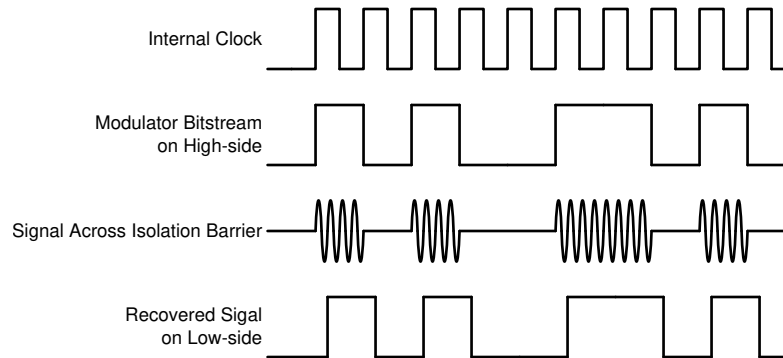

Figure 7-1. OOK-Based Modulation Scheme
The AMC1300B-Q1 uses an on-off keying (OOK) modulation scheme, as shown in Figure 7-1, to transmit the modulator output bitstream across the SiO₂-based isolation barrier. The transmit driver (TX) shown in the Functional Block Diagram transmits an internally-generated, high-frequency carrier across the isolation barrier to represent a digital *one* and does not send a signal to represent a digital *zero*. The nominal frequency of the carrier used inside the AMC1300B-Q1 is 480 MHz.